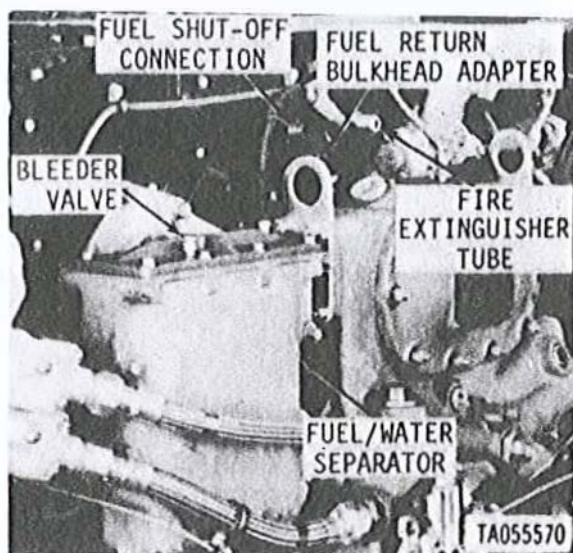

Figure 3-339.1. Engine connection points—left front view, model AVDS-1790-2DR engine.
(6) Check operation of manual fuel shutoff (fig. 3-339.1).